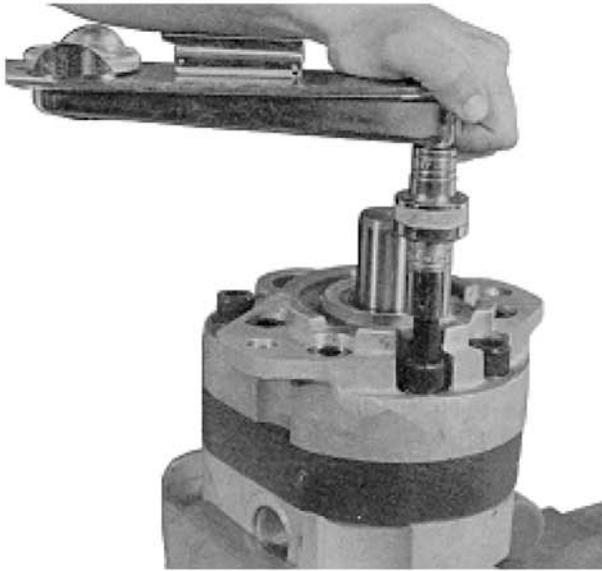

FIGURE 1
1.) Place motor in vise as shown in Fig. 1, tightening vise enough to prevent motor from rocking out. Excessive clamping pressure could damage the inlet and outlet ports. Jaws should not contact spotface of ports.
2.) Unfasten the nine cap screws holding the end caps and housing together. (Fig.1.) Remove the cap screws completely.